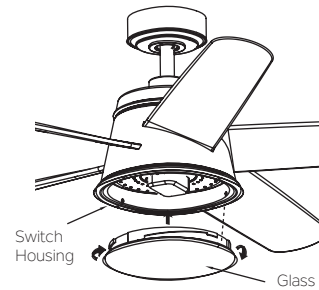

Fig. 22
Step 2. Secure the glass to switch housing by twisting in a clockwise direction, twist the glass gradually until it snaps on to the switch housing. Do not over-tighten. (Fig. 22)